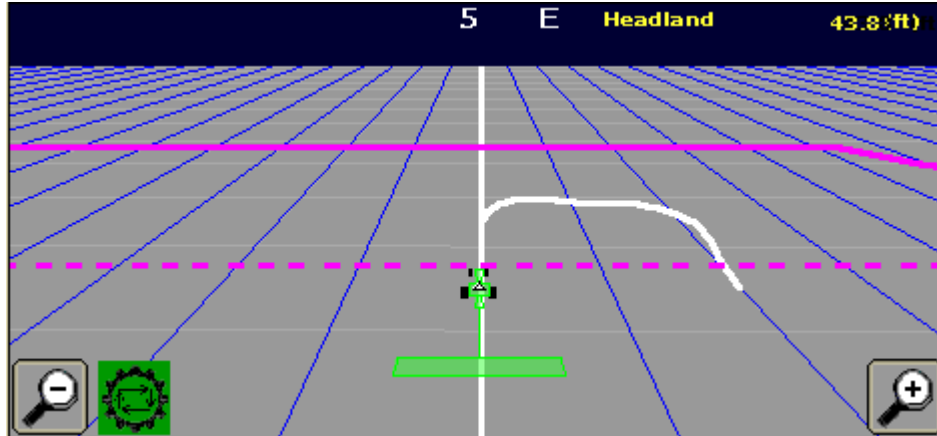

Figure 4. Extended Simple Turn
- Skip tracks to create a “simple” turn (figure 4 & 11)
- Skip enough tracks to obtain a “simple” turn (see Figures 4 & 11)